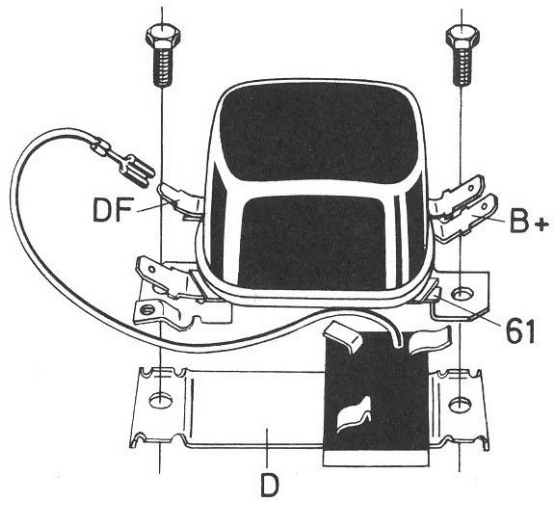

Fig. 3
- Pos. D Regler, Kl. B+, 61 und DF/Regulator, term. B+, 61 and DF Fig. 3